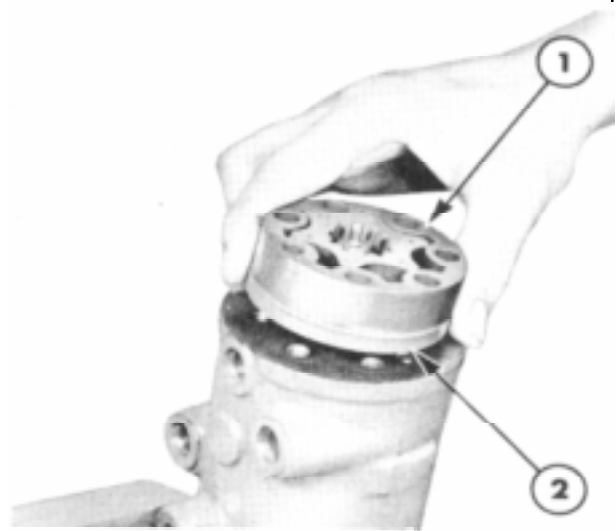

Figure 9
8. Remove the rotor set spacer and drive link as an assembly by grasping the spacer and removing the assembly with a sliding and lifting motion. Figure 9.